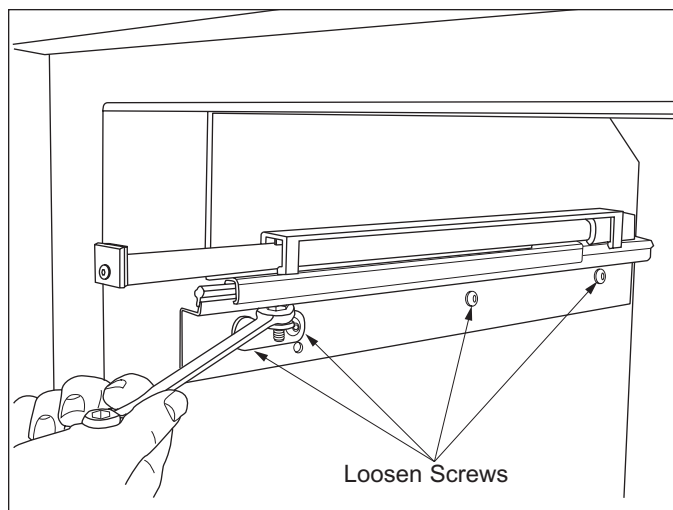

Figure 2-18. Vertical Drawer Adjustment
1. Loosen drawer slide mounting screws. (See Figure 2-18)
2. Using a 7/16" (11 mm) open end wrench, turn adjustment screw until proper alignment is obtained. (See Figure 2-18).